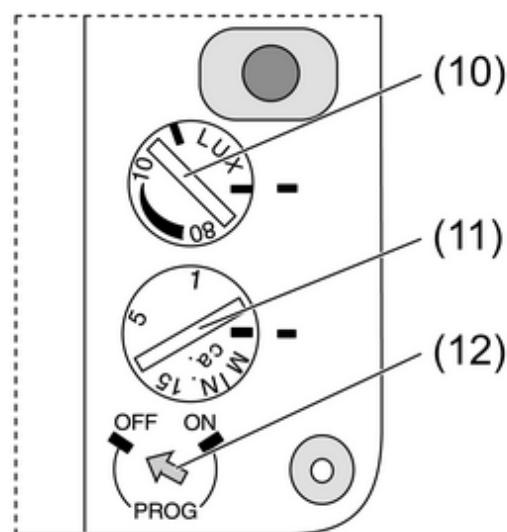

Figure 9: Adjuster
- Turn brightness adjuster (10) to the desired value (Figure 9).
- Turn switch-on time adjuster (11) to the desired value (Figure 9). The switch-on time can be set from approx. 10 seconds to approx. 15 minutes.
- Turn rotary switch **PROG** (12) to **ON** to activate the programming mode (Figure 9).